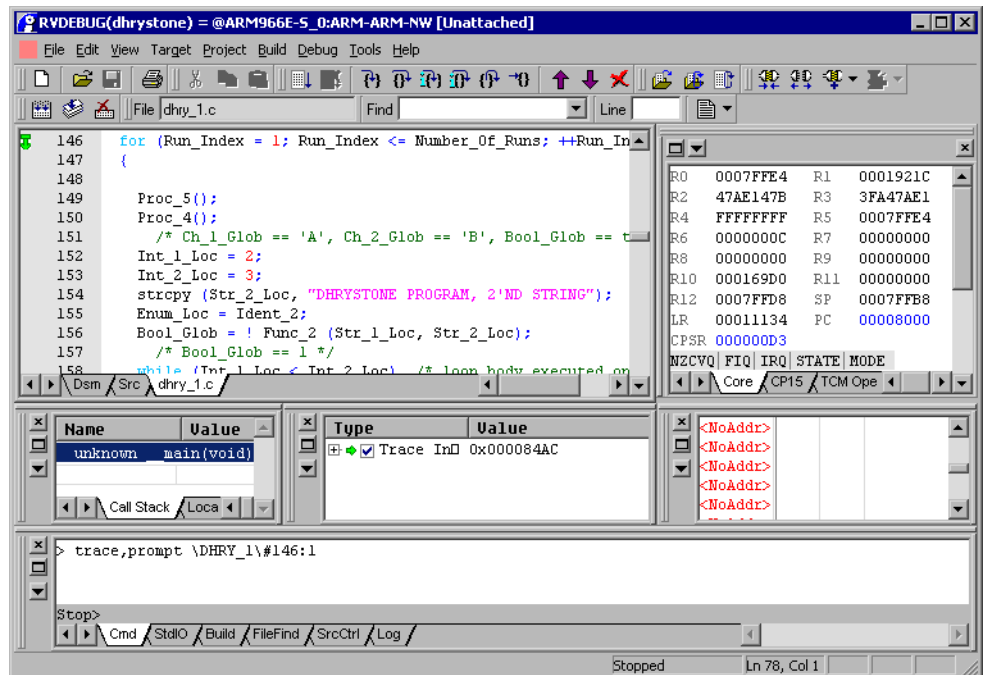

Figure 2-49 Setting a trace start point
- c. Select **Trace Start Point** from the List Selection dialog box. An arrow  is placed next to line 146 to indicate the start point you have set, and details of this control point are displayed in the Break/Tracepoints pane of the Code window, as shown in Figure 2-49.